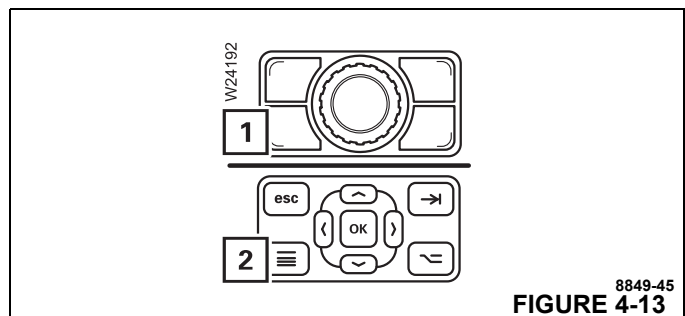

FIGURE 4-13
To do so, open the ODM main menu by pressing the button (1, Figure 4-13) or (2) once.